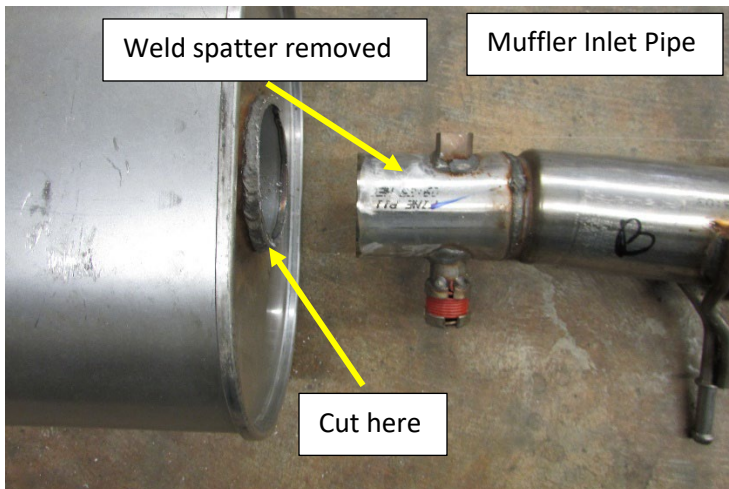

Figure.2
6. Loosen the 13mm bolt on the band clamp just before the flex section of the OEM muffler inlet pipe. Remove the forward hanger rod from isolator on the frame rail and remove the OEM muffler assembly. **Fig.2**
1. Using a reciprocating saw or cut off wheel. Make a clean and straight cut just in front of the weld on the Muffler Inlet Pipe. **Fig.2**